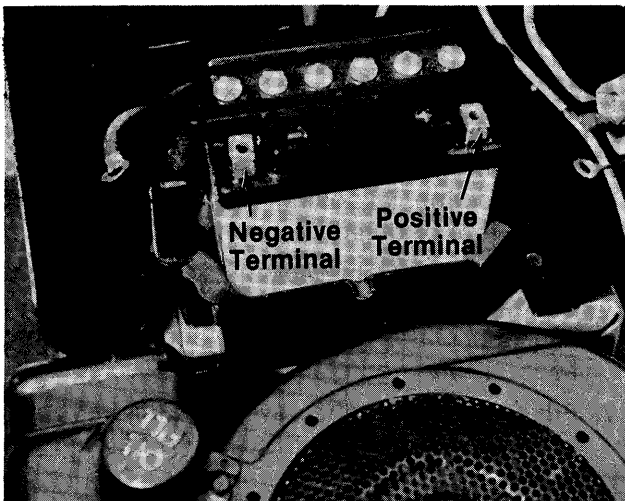

FIGURE 12.
10. Place the battery in the rider so that the positive terminal is towards the left side of the unit. See figure 12.